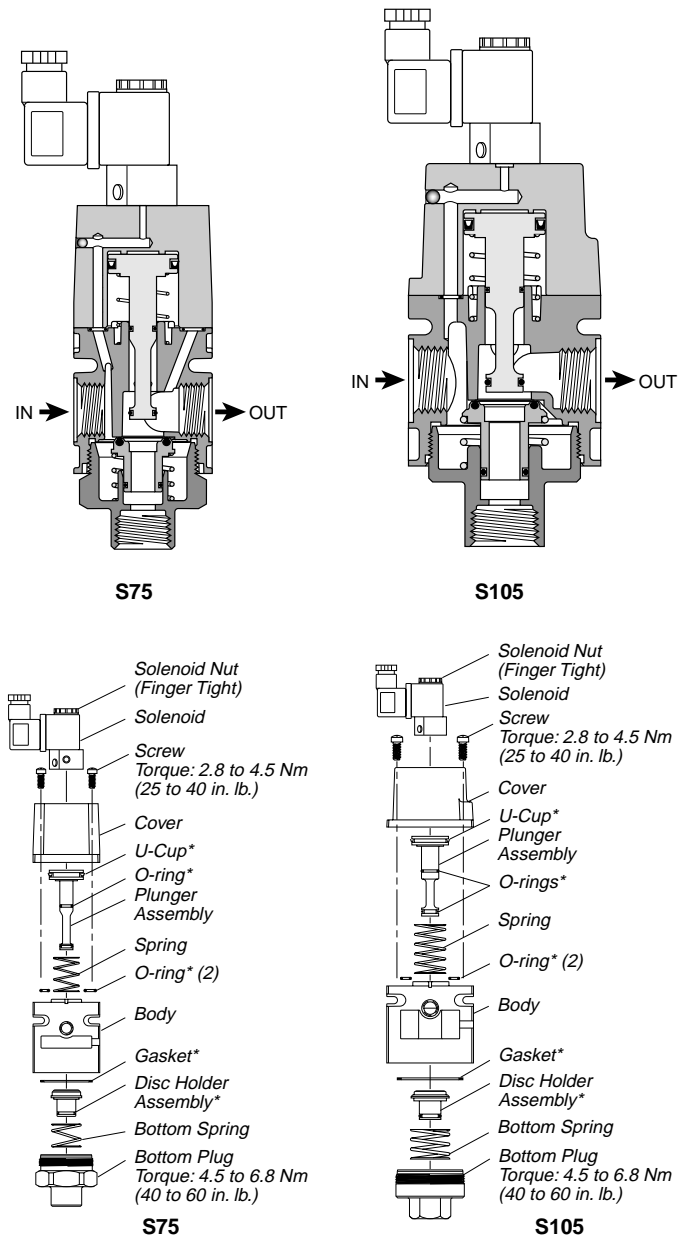

Figure 1
To replace the solenoid, remove the solenoid nut and pull solenoid off and replace with the correct voltage solenoid. Replace solenoid nut and tighten finger tight. See Figure 1.
5. Install Gasket into Body. Then install Disc Holder, Bottom Spring and Bottom Plug into Body. See Figure 1 for torque value.
6. Install Plunger with Seals into the Body. Install two O-rings between Body and Cover (make sure air passages are aligned properly), install four Screws and tighten per Figure 1.